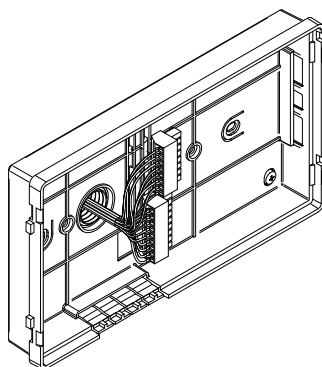
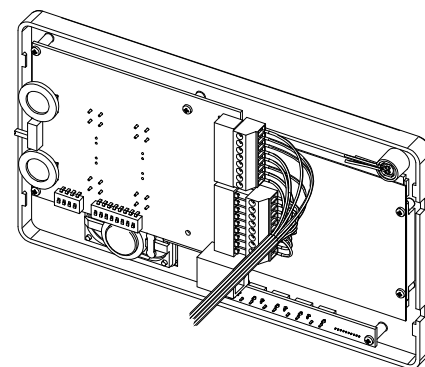

Fig. 5
Fig. 6
- As shown in Fig. 5, connect the wires to the removable terminals following the provided installation diagram. Connect the terminal blocks to the electronics contained in the cover as shown in Fig. 6. Test system before closing. Contrast and hue trimmers can be adjusted only if the videophone is open. To activate the display and see changes use the "Camera Recall" function by pressing button.